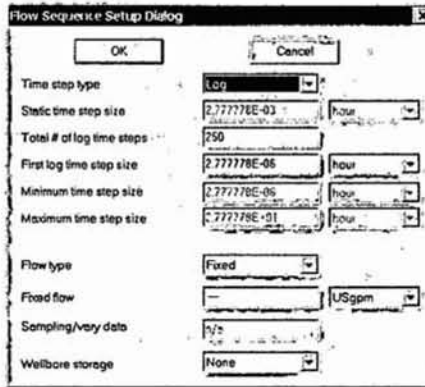

Figure 74. Flow Sequence Setup Dialog
- (1) In the **Sequences** tab, keep the default sequence type and designation. Click in the **Duration** cell, and type **100**. The sequence duration is therefore 100 hours.
- (2) Double click on the **Sequence Data** cell (currently says "BAD"). A dialog will appear in a separate window, as shown in figure 74: